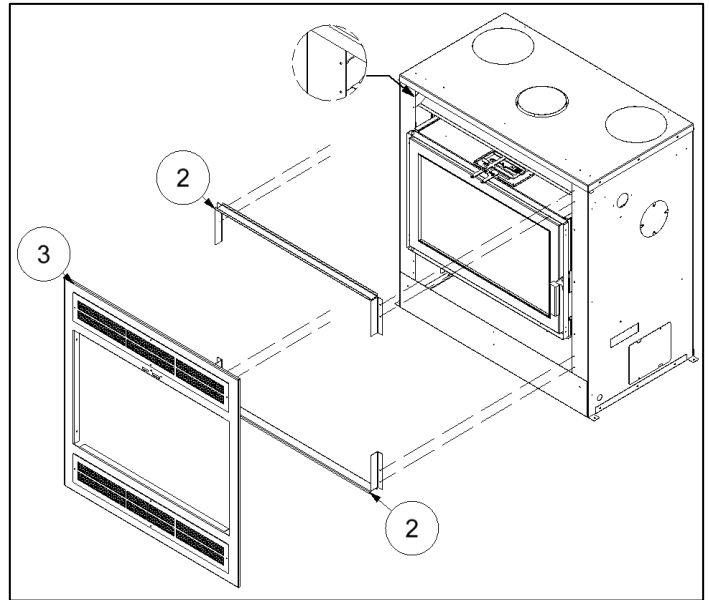

Figure 3-10: Traditional Surround Installation
2. Align the bottom front support bracket (Item 2) to the intake opening and fasten it in place (Figure 3-10).
3. Align the top front support bracket (Item 2) to the outtake opening and fasten it in place (Figure 3-10).